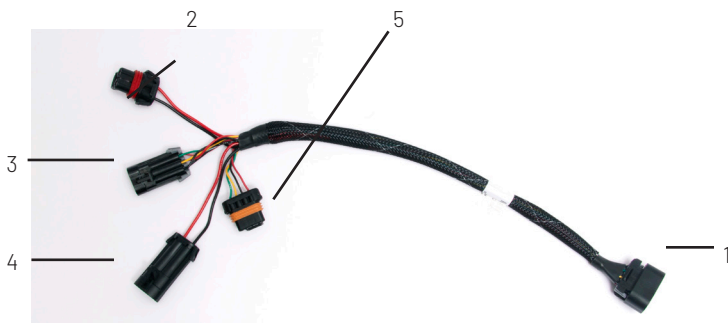
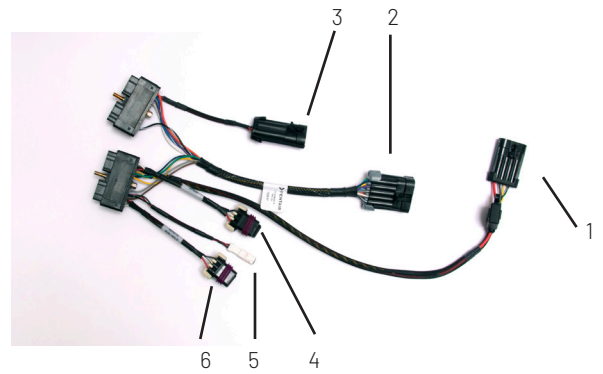
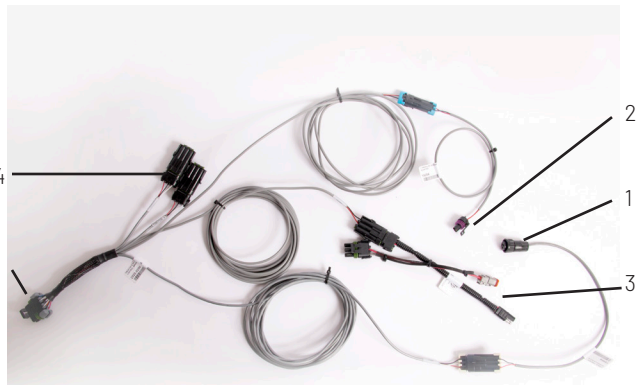

Figure 2: Adapter Harness (2520-0253)
Figure 3: Control Harness (2520-0258)
Figure 5: Input/Output Harness (2520-0250)
5. Connect the Interface Cable's (2520-0237) four-pin connector (Fig. 1, Item 4) to the fused four-pin connector on the Rate Controller Harness (2520-0258)(Fig. 3, Item 1).
6. Connect the remaining two Interface Cable (2520-0237) connectors to the mating connectors on the Adapter Cable (2520-0253)(Fig. 2, Items 2 and 4).
7. Connect the Rate Controller Harness's two-pin connector (Fig. 3, Item 4) to the mating two-pin connector of the Adapter Cable (2520-0253)(Fig. 2, Item 3).
8. Connect the Rate Controller Harness's ten-pin connector (Fig. 3, Item 2) to the mating connector of the Input/Output Harness (2520-0250)(Fig. 5 item 5).
9. Connect the Input/Output Harness's flow meter connector (Fig. 5, Item 1) to the machine's flow meter. See this manual's Wiring Diagram for further information.
10. Connect the Input/Output Harness's pressure transducer connector (Fig. 5, Item 2) to the part number: 2530-0209 pressure transducer. See this manual's Wiring Diagram for further information.
11. Connect the appropriate flow control pigtail on the Input/Output Harness (Fig. 5, Item 3) to the machine's flow control device. See Wiring Diagram in this manual for further information.
12. Connect the Adpater Harness's eight-pin connector (Fig. 2, Item 1) into the the first Cannode Tap Cable (Fig. 4, 2520-0251). If the cannode(s) cannot be reached, a Cannode Extension Cable can be used (2520-0254, 2520-0255, 2520-0256, 2520-0257).